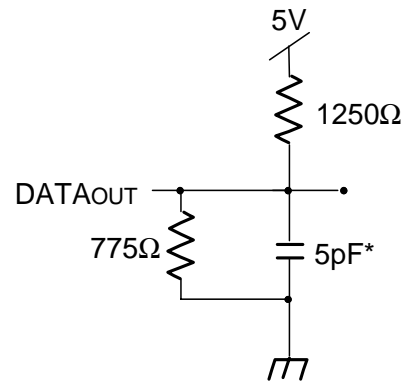

Figure 2. Output Test Load
1. Transition is measured 0mV from Low or High-Impedance Voltage Output Test Load (Figure 2).
- Transition is measured 0mV from Low or High-impedance voltage with Output Test Load (Figure 2). This parameter is guaranteed by device characterization but is not production tested.
7. This parameter is determined by device characterization, but is not production tested. Transition is measured 0mV from steady state with the Output Test Load (Figure 2).